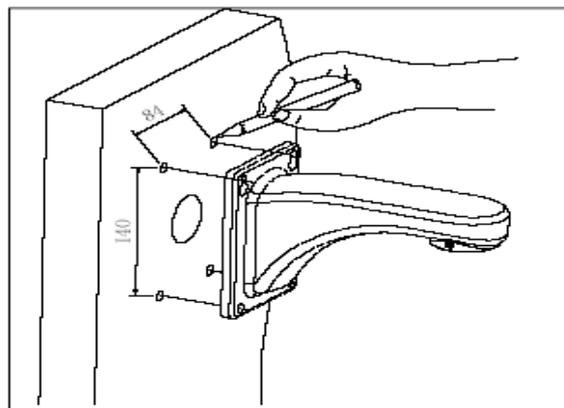

Fig 2.3
- a. As shown in fig 2.3, with the installation holes in the underside of the wall hanging bracket as pattern, draw punched locations and punch.